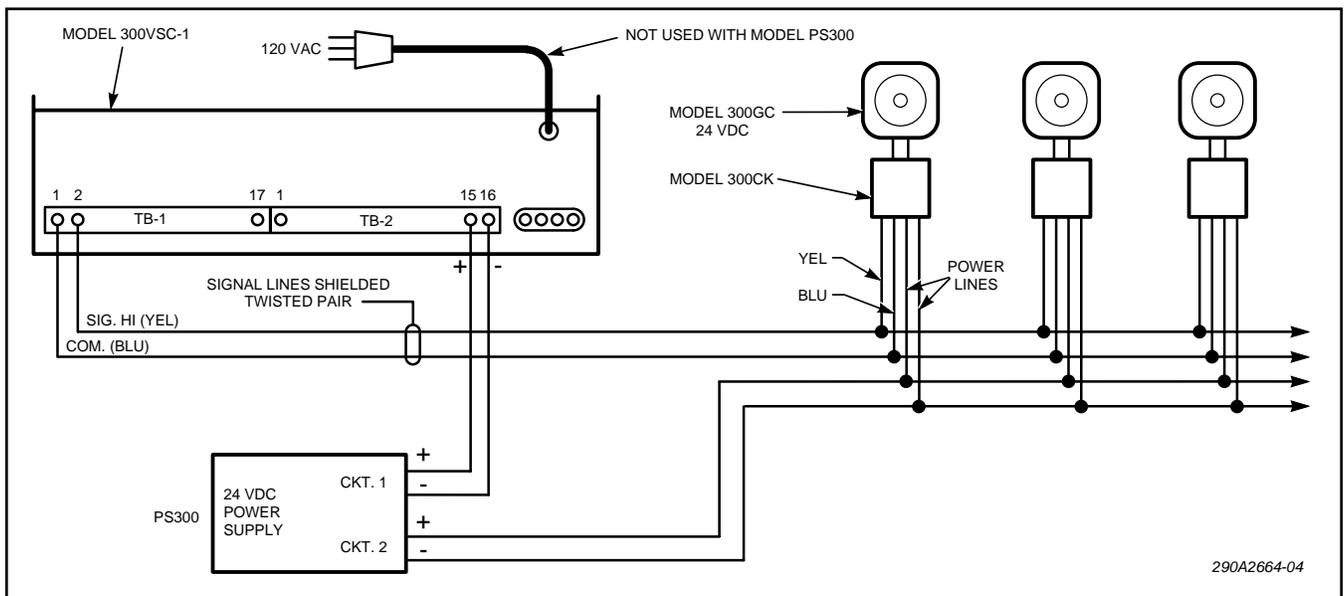

Figure 3-4. Typical Central Power System.
B. Central Power (See figure 3-4).